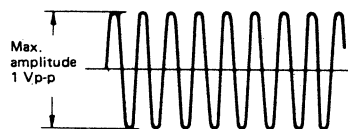

Figure 11. Waveform
3. Adjust LK01 for the maximum amplitude of waveform (See figure 11) while holding down VOLUME DOWN Button on the hand unit.
4. Rotate the core of LK01 for the maximum amplitude of waveform on the scope, clockwise from the fully counterclockwise position. (See figure 11.) Note: While adjustment, face the remote hand unit to such direction as to keep 1 Vp-p amplitude of waveform to prevent the saturation of response.